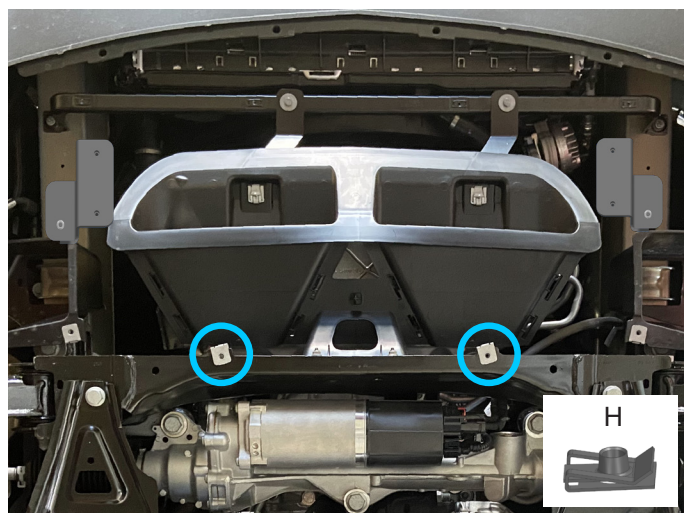

Fig. 3
3. Replace OEM cage nuts with U-nuts M8 (item H), as shown in fig.3.